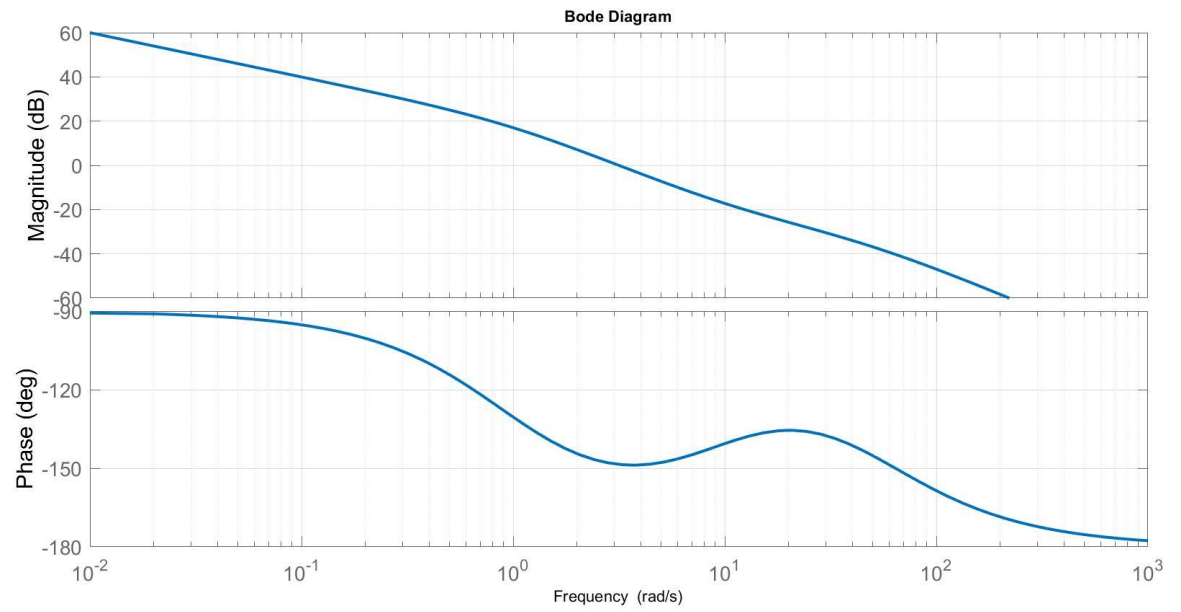

Figure 6: Bode diagram of  $\frac{50(1+10/s)}{(s+50)(s+1)}$  (question #4)
- Considering a proportional integral compensator defined by  $G_C(s) = K_C(1 + 10/s)$ , obtain the gain  $K_C$  which ensures that the transient response have an overshoot of 10%. The Bode diagram of the transfer function  $\frac{50(1+10/s)}{(s+50)(s+1)}$  is shown in Figure 6 to assist you in the design. Clearly detail each step of the design process.